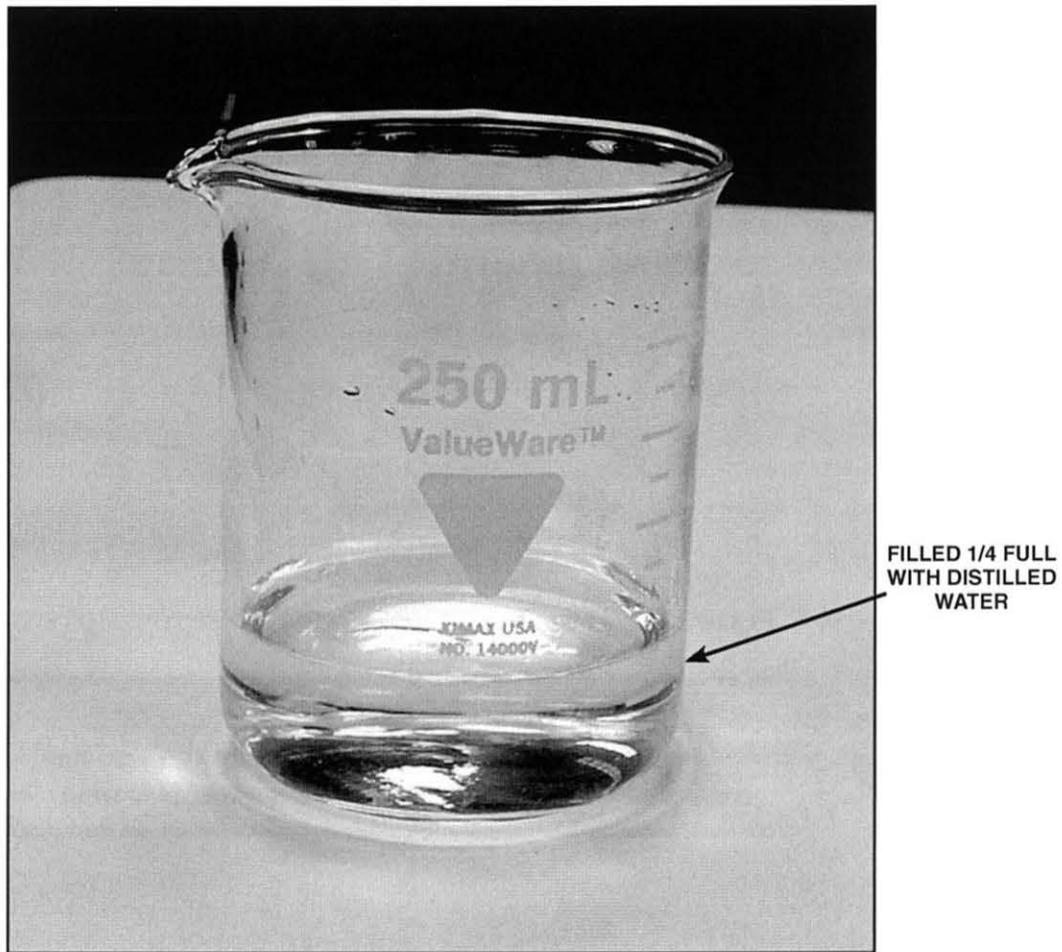

Figure 31. Container 1/4 Filled with Distilled Water
A. Locate a clean container, such as the beaker shown in figure 31, and fill it about 1/4 full with distilled water.